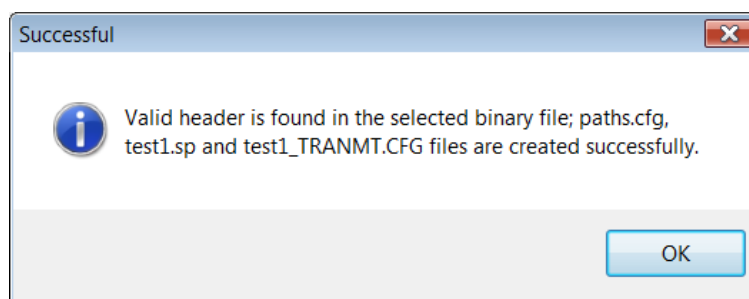

Figure 52 - Information window
3. Browse - Allow the user to open a standard Microsoft Windows® window and select the file to be processed. Once the file is selected an information window, Figure 52, opens showing what files were created to facilitate data processing.